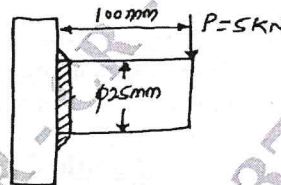

Fig.Q8(a)
- 8 a. A solid circular shaft 25 mm in diameter is welded to a support by means of a fillet weld as shown in Fig.Q8(a). Determine the leg dimensions of the weld if the permissible shear stress is 95 N/mm2.